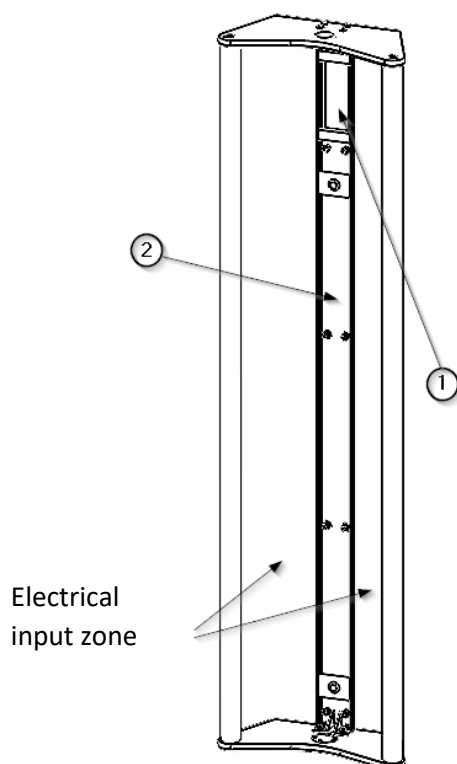

Fig. 1 Supply inputs in the Adonis structure.
Only the inlets for the supply of medical gases ① can be located at the rear of the device, as they come in a predetermined location by the structure of the Adonis as shown in figure 1. The supply for the electrical and voice and data part of the device shall be to the left and/or right of the central rib ②.
Figure 1 shows the ADONIS system without the aluminium chassis in order to observe the inputs located on the structural part.
- The electrical and gas inlets are exposed. See figure 1.